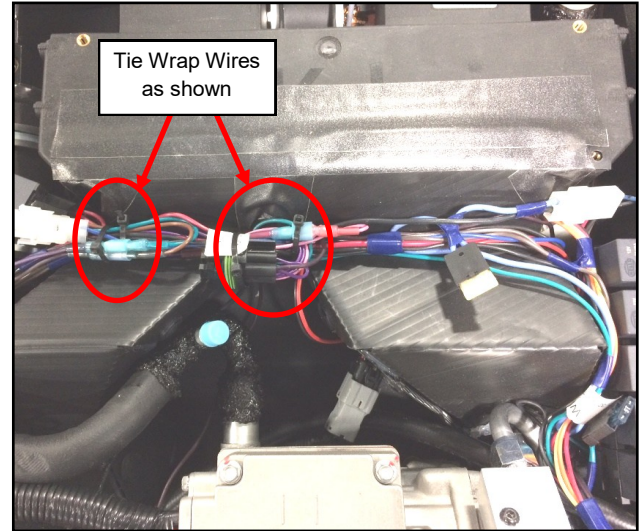

Fig. 1.8 (Tie Wrap Harnesses together)
- 1.8 Bundle the wires in the tray formed by the ductwork as shown in fig. 1.8. and use the supplied tie wraps to hold the harnesses together.